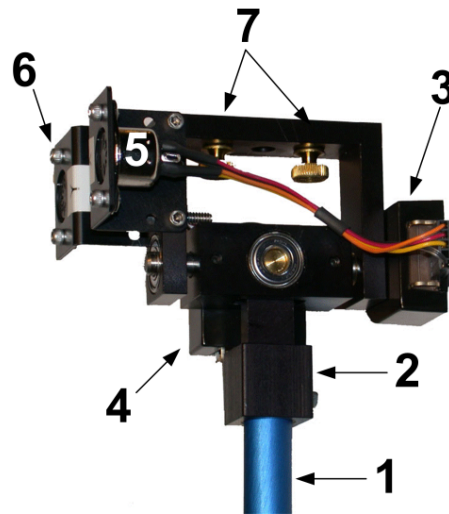

Figure 2.1: Components on 2 DOF joint.
The components for the 2 DOF Joint module are listed in Table 2.1 and labeled in Figure 2.1.
3. Tighten both thumbscrews, ID #7 in Figure 2.1, to fasten the joint onto the end-effector of the 2 DOF Robot links.